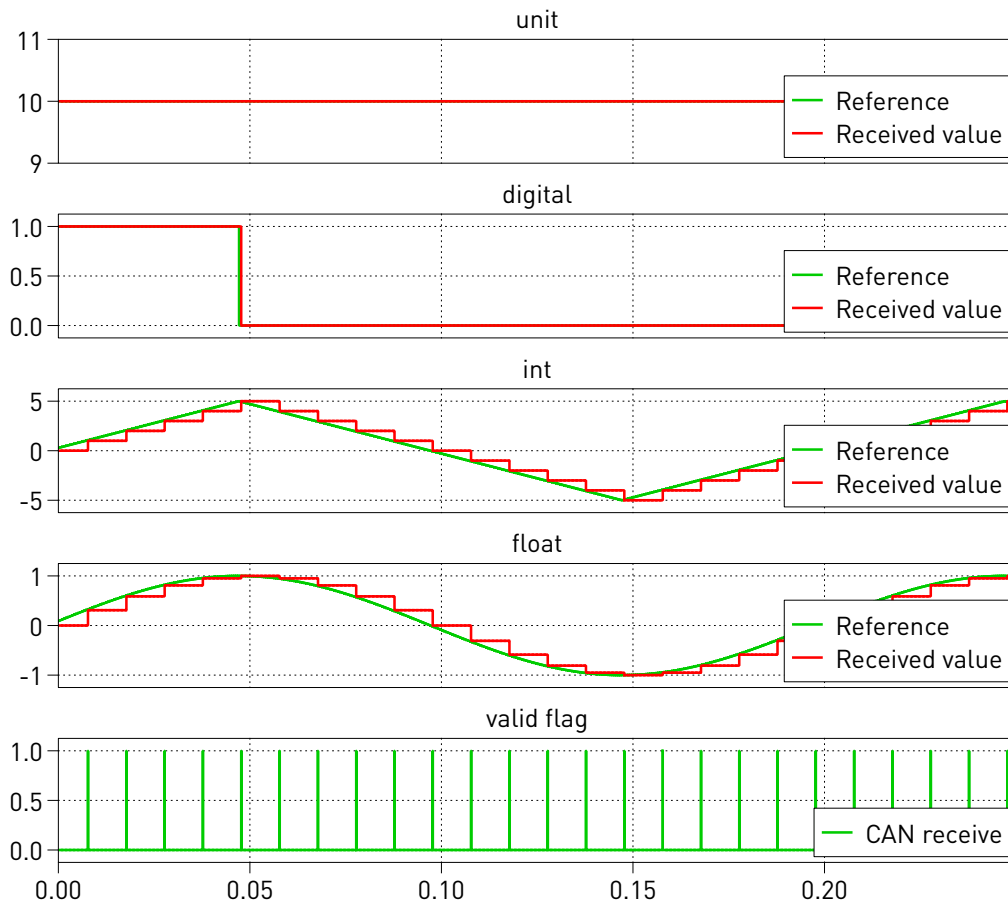

Figure 6: Real-time waveform showing the four received signals after CAN loop-back test
Build the “RT Box” model onto the RT Box. Once the model is uploaded, from the **External Mode** tab of the **Coder options...** window, **Connect** to the RT Box and **Activate autotriggering**. The real-time simulation results are shown in Fig. 6.
- The first signal received in an unsigned integer with a value of 10. By changing the Constant value in front of the CAN Pack block to another value (for example: from 10 to 20) during run-time, one should see the change reflected on the first received signal of the Scope in Fig. 6 immediately.